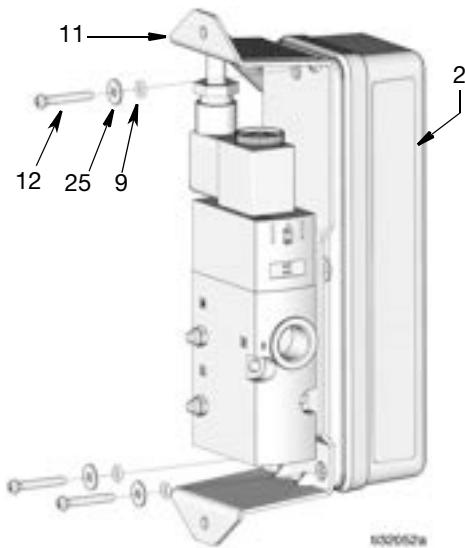

FIG. 2
3. Remove three screws (12), washers (25) and o-rings (9) securing PAC bracket (11) to enclosure (2) (FIG. 2).